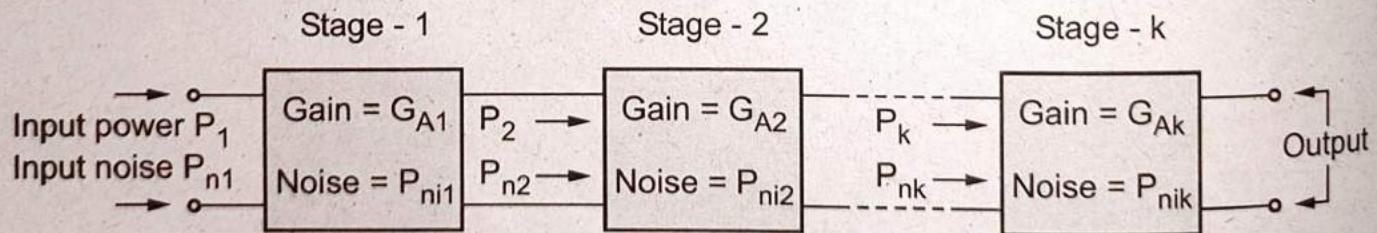

Fig. 5.6.16 Multistage amplifier
- Fig. 5.6.16 shows multistage amplifier representation.